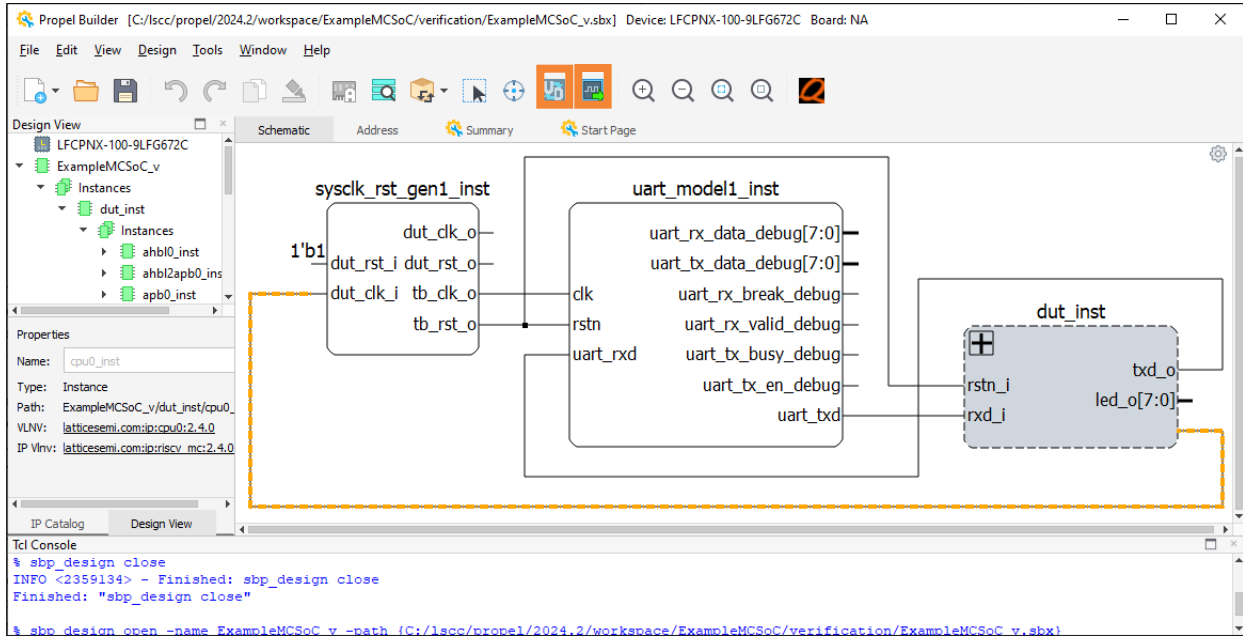

Figure 3.35. SoC Verification Project
2. Click the **Switch** icon  on the toolbar to switch between SoC design and SoC verification project (Figure 3.35).
3. After the SoC design is switched to an SoC verification project, click the **Generate** icon  to generate the simulation environment. Click the **Launch Simulation** icon  (Figure 3.35).